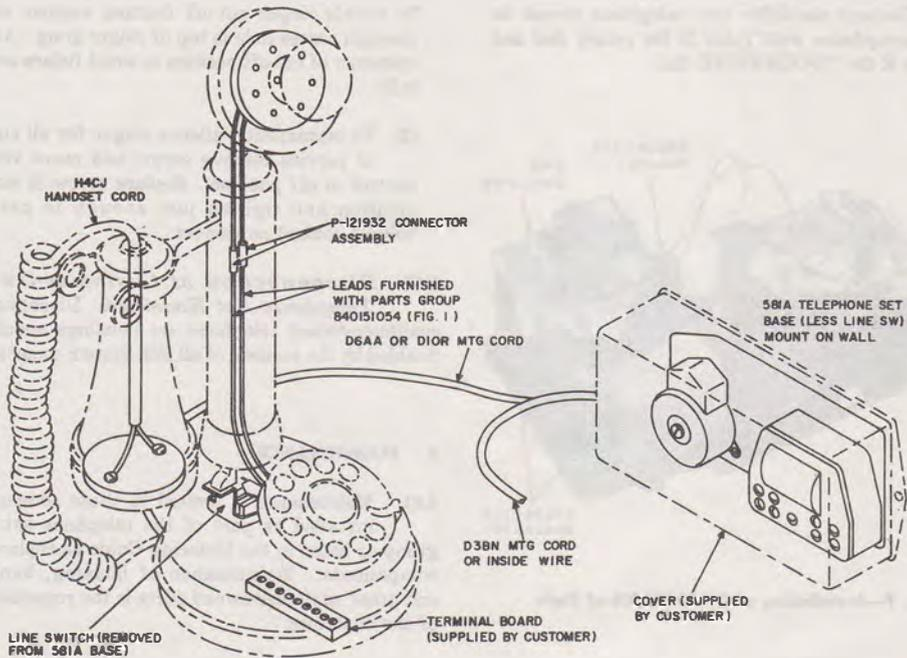

Fig. 6—Typical Installation of Desk Stand Type Telephone Set
- (1) Remove line switch from 581A base (current model only).
- (2) Remove square snap-in cover from bottom of candlestick mounting base.
- (3) Mount line switch to customer's set with actuator toward terminal board.
- (4) A typical installation of a desk stand type telephone set is shown in Fig. 6.
- (5) If 581A base (subset) is wall mounted, adjust ringer volume control to "LOUD" before attaching subset to wall.
- (6) See 3.13 for mounting cord installation procedures.